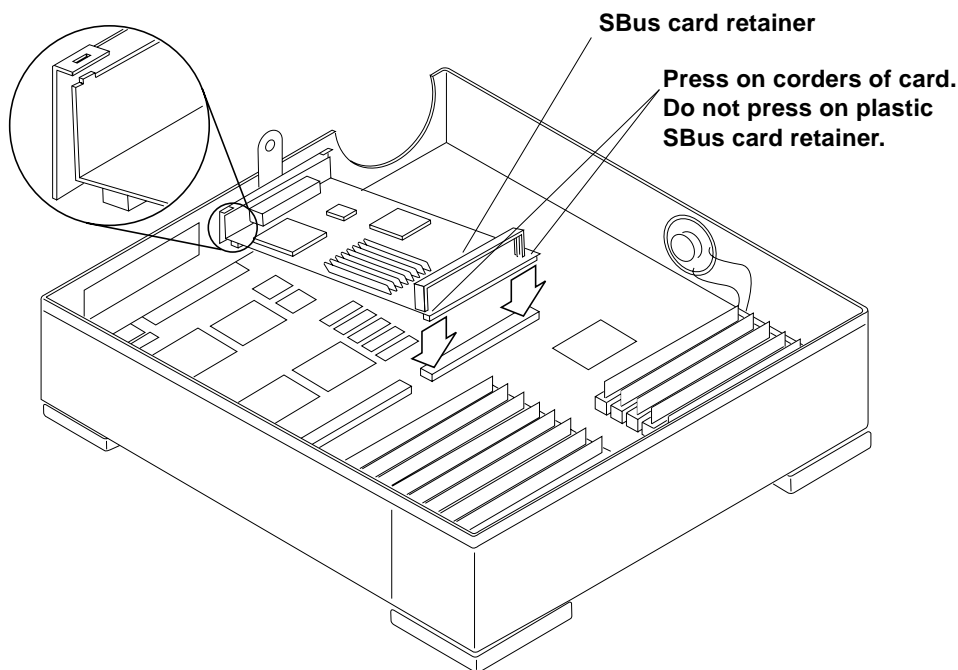

Figure 4-6 Installing an SBus Card
4. Slide the SBus card at an angle into the back panel of the system unit (see the Figure 4-6).